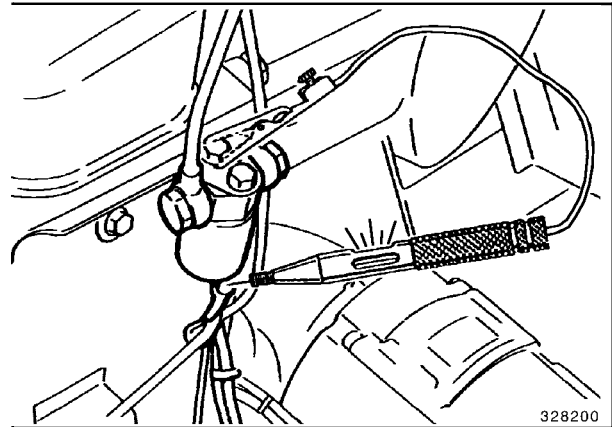

Fig. 1
1. Checking with the test lamp (Fig. 1)